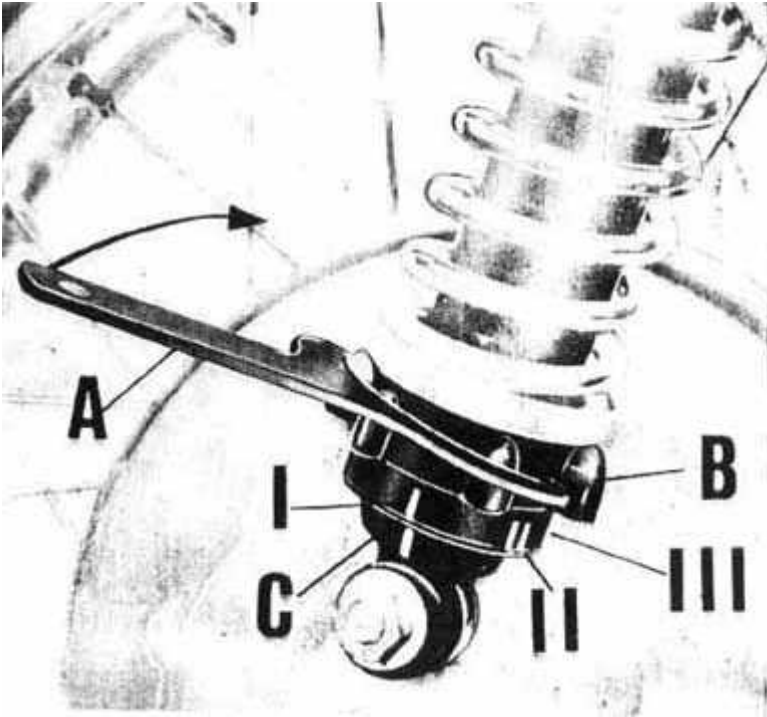

Fig. 34
**Rear suspension units** (See fig. 34) [return to index]